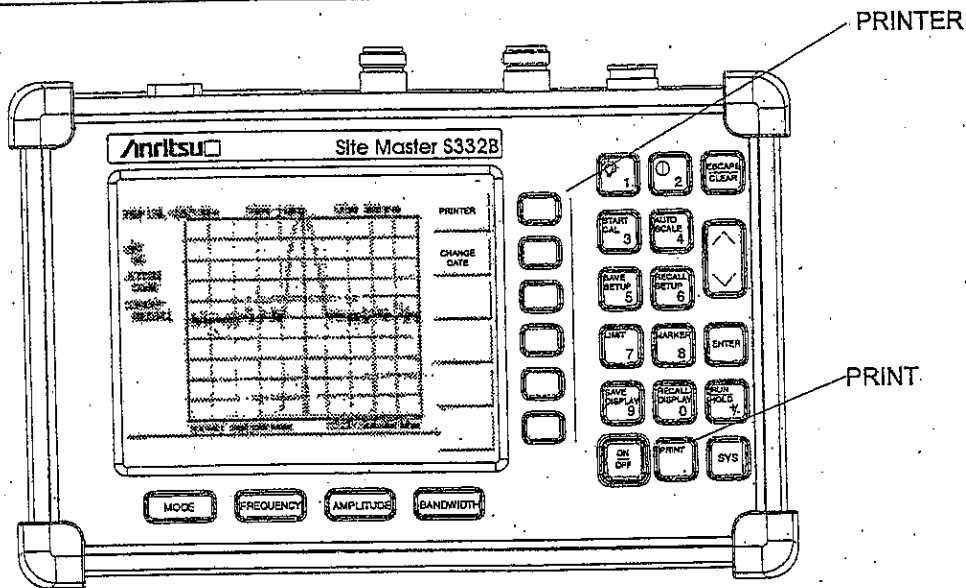

Figure 3-13. **PRINTER** Soft Key and **PRINT** Key
Step 5. Press the **PRINT** key. (Figure 3-13).